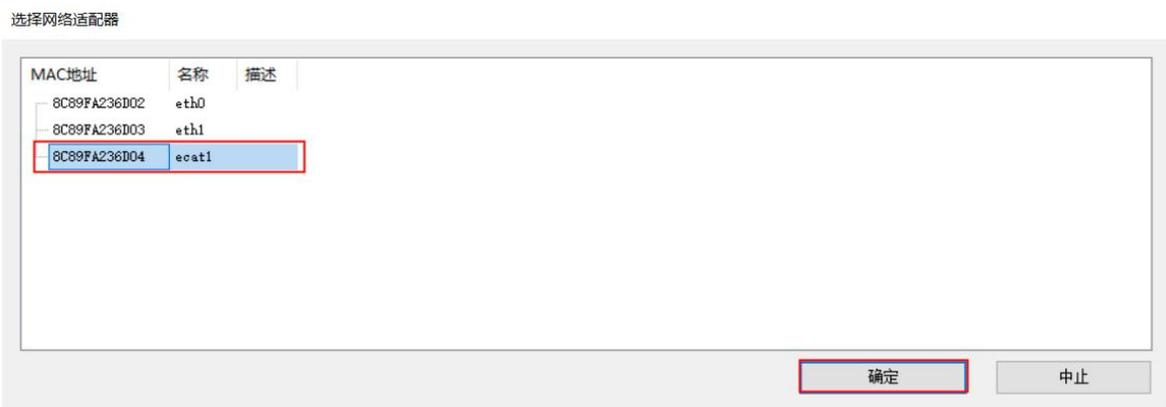

Figure 13-13 Network adapter selection
7. In the pop-up screen, select the MAC address in [ecat1], and click [OK], as shown in Figure 13-13.